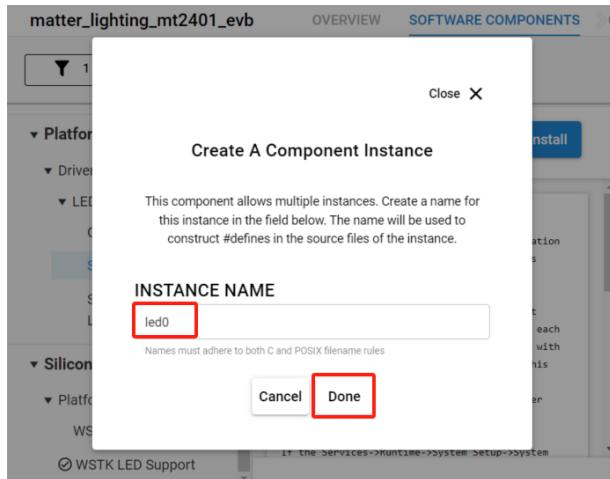

Figure 5.9
- 4) Change the name to led0 in the pop-up window, as shown in figure 5.9